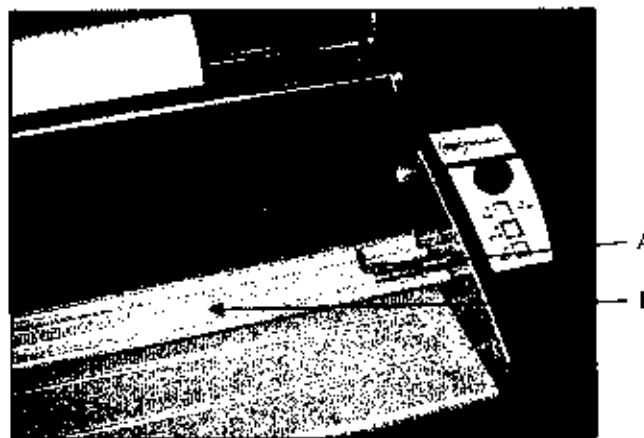

**Fig. 5-8. Artic Titan 1064 WF c Tension Adjustment Knobs**
- A. Rewind Tension Adjustment Knob (Figure 5-8)
- B. Film Tension Adjustment Knobs (Figure 5-8)